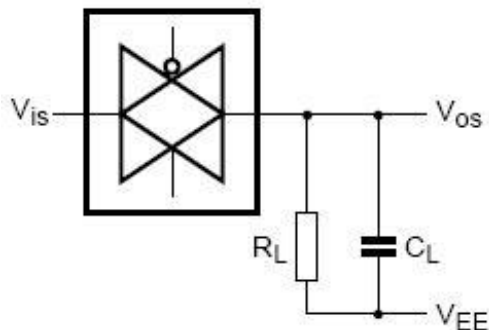

Figure 10. Square wave distortion degree of cut-off frequency and conduction frequency test pattern
- [3]  $R_L=1k\Omega$ ;  $C_L=5pF$ , channel off,  $20\log V_{os}/V_{is}=-50dB$ , see Figure 10.
- [4]  $R_L=1k\Omega$ ;  $C_L=5pF$ , channel on,  $20\log V_{os}/V_{is}=-3dB$ , see Figure 10.